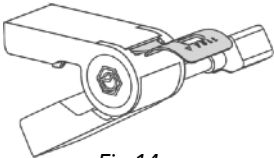

Fig 14
1. Open the CT loop by pulling plastic tab up and out towards 'PULL' arrow direction. **Fig 14**.